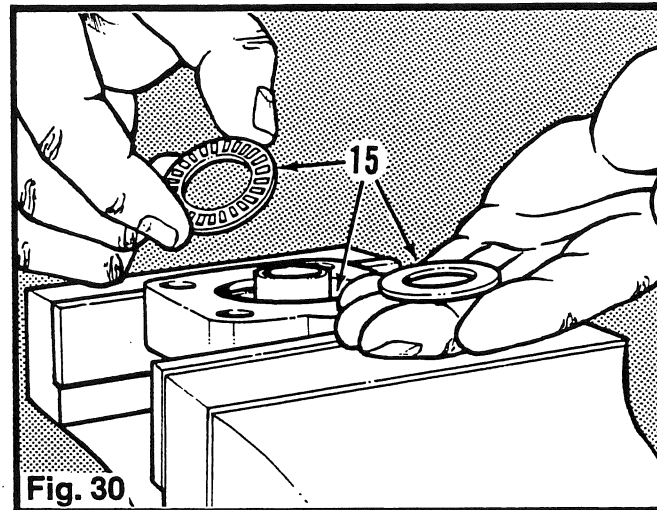

Fig. 30
8. Install the thrust bearing (15). (Fig. 30)